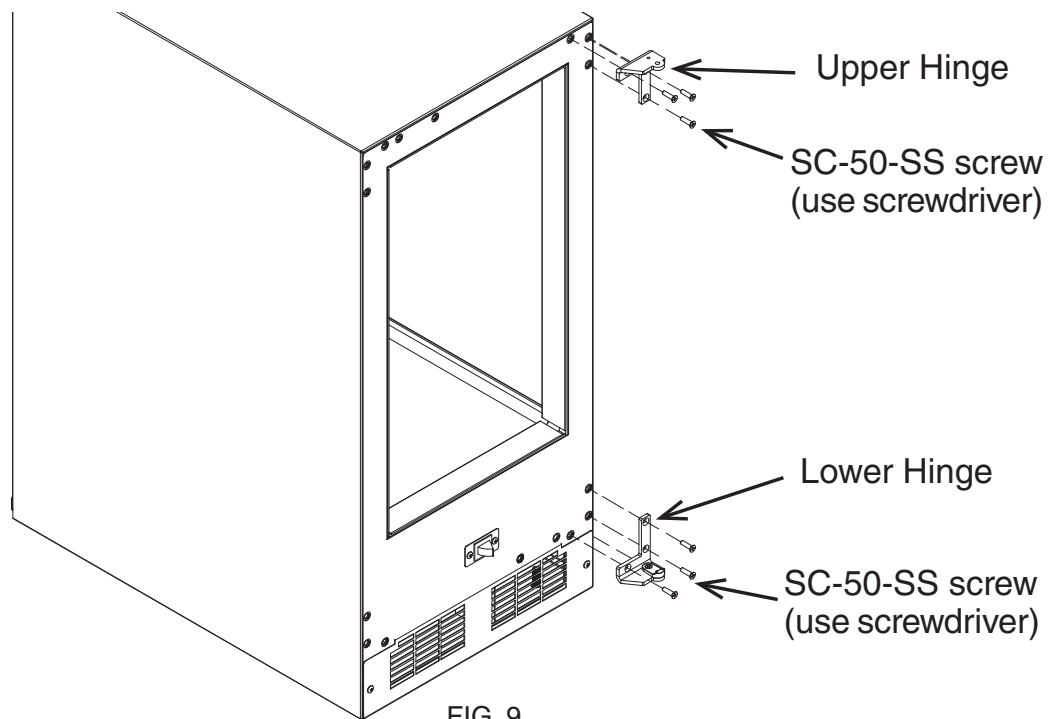

FIG. 9
Step 7. Remove the SC-50-SS screws and the hinges from the cabinet. See the illustration below. See figure 9.